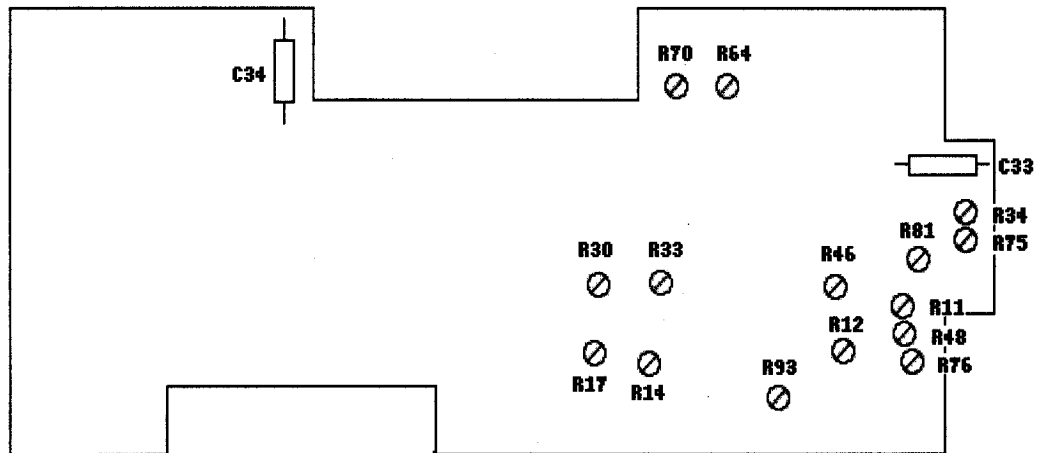

Figure 1. Test instrument – top view.
- (1) Connect TI **MODULATION GENERATOR OUT (600 Ω)** to audio analyzer **INPUT HIGH**.
- (2) Set up audio analyzer to measure frequency.
- (3) Set **FREQ/PERIOD MULT (Hz/s)** switch to **1K/100K** and adjust **VARIABLE** control fully cw.
- (4) Adjust R48 (fig 1) until audio analyzer indicates between 100.0 and 100.4 kHz (R).
- (5) Adjust **VARIABLE** control fully ccw.
- (6) Adjust R93 (fig. 1) until audio analyzer indicates between 960 and 1000 Hz (R).
- (7) Disconnect TI from audio analyzer and connect to oscilloscope **Vertical 1** input.
- (8) Set up oscilloscope to measure duty cycle.
- (9) Set **FREQ/PERIOD MULT (Hz/s)** switch to **10/1K** and adjust **VARIABLE** control fully cw.
- (10) Adjust R14 (fig. 1) until the oscilloscope indicates a duty cycle between 49 and 51% (R).
- (11) Adjust **VARIABLE** control fully ccw.
- (12) Adjust R17 (fig. 1) until the oscilloscope indicates a duty cycle between 49 and 51% (R).
- (13) Set **FREQ/PERIOD MULT (Hz/s)** switch to **1K/100K**.
- (14) Adjust R75 (fig. 1) until the oscilloscope indicates a duty cycle between 49 and 51%.
- (15) Repeat this adjustment procedure for best in-tolerance condition on all ranges.
- (1) Adjust R34 (fig. 1) for minimum indication less 10 mV on audio analyzer (R).
- (2) Adjust R33 (fig. 1) for minimum indication less 10 mV on audio analyzer (R).
- (3) Adjust R76 (fig. 1) for minimum indication less 10 mV on audio analyzer (R).
b. Adjustments. Adjust R11 and R12 (fig. 1) in increments for minimum distortion less than 5 percent (R) on audio analyzer.
- (1) Adjust R46 and R30 (fig.1) for optimum ramps.
- (2) Repeat **a** (3) and **b** (1) above for optimum ramps.
- (3) Adjust R81 (fig.1) until the negative peaks coincide with horizontal centerline on oscilloscope.